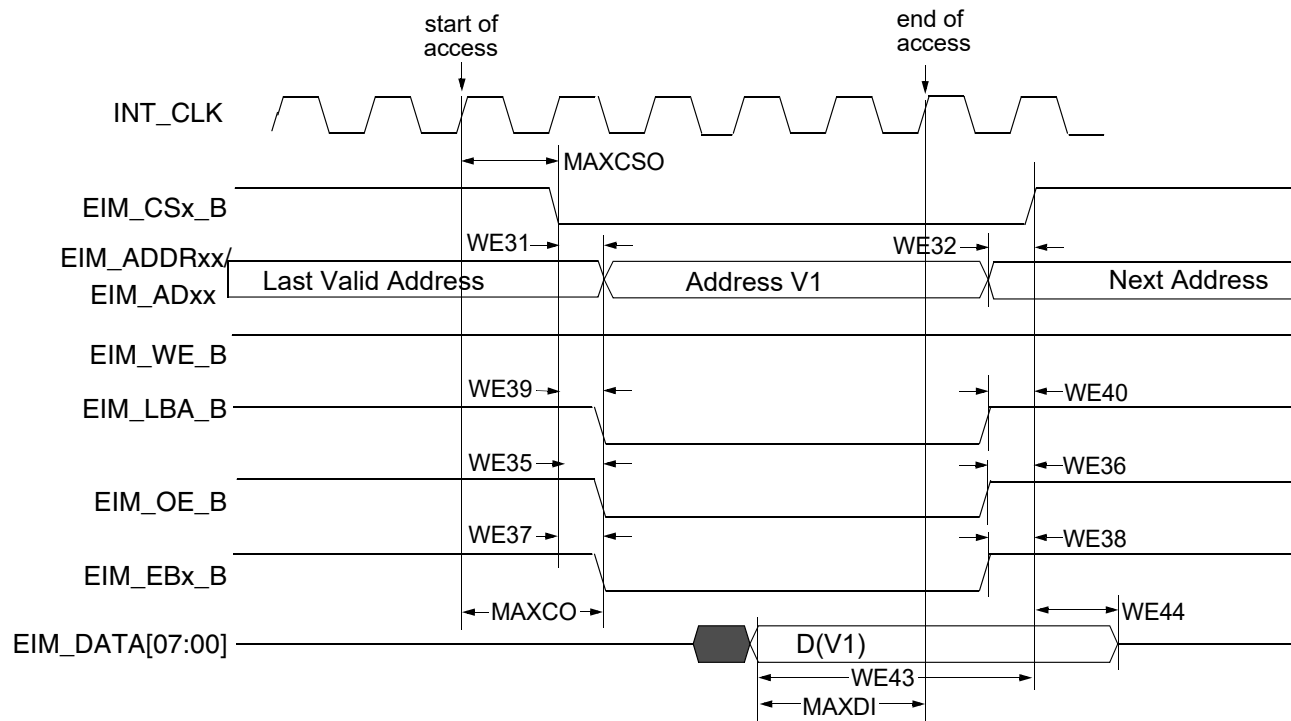

Figure 16. Asynchronous Memory Read Access (RWSC = 5)
Figure 16 through Figure 20 and Table 38 provide timing parameters relative to the chip select (CS) state for asynchronous and DTACK EIM accesses with corresponding EIM bit fields and the timing parameters mentioned above.
Asynchronous read and write access length in cycles may vary from what is shown in Figure 16 through Figure 19 as RWSC, OEN & CSN is configured differently. See the i.MX 6Dual/6Quad reference manual (IMX6DQRM) for the EIM programming model.